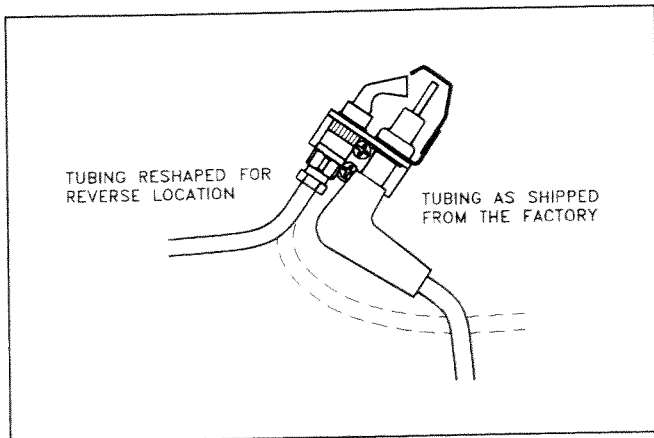

Figure 16. Reversed Pilot and Tubing
7. Reshape pilot tubing. See Figure 16. Be careful when you bend tubing. Do not kink.